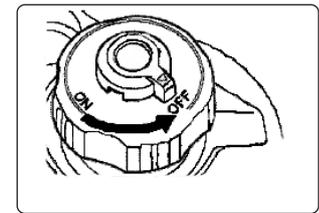

fig.14
- 6.4.6. Turn the fuel tank cap air vent knob to "OFF" fig.14 after the engine has completely cooled down.